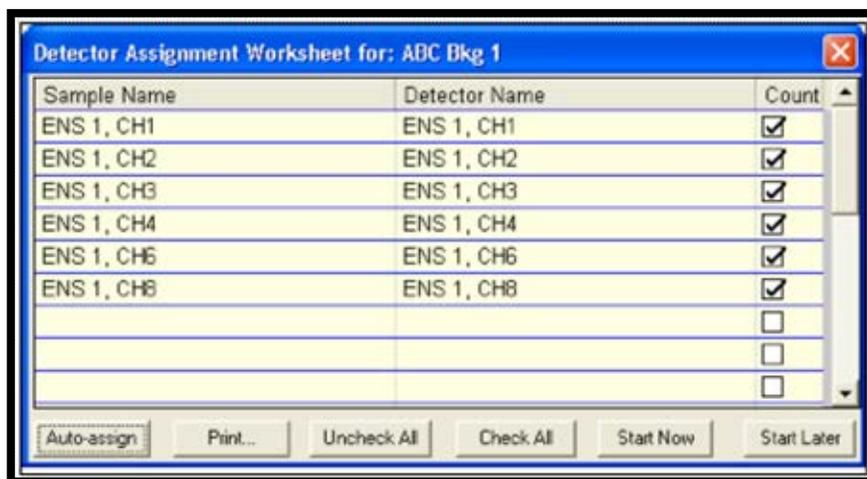

Figure 113. All Alpha Chambers Pre-Assigned a Detector
- If the **Auto-Sample** option for creating batch samples is used, the detectors will already be assigned, as shown in Figure 113, and the system is now ready to start counting.